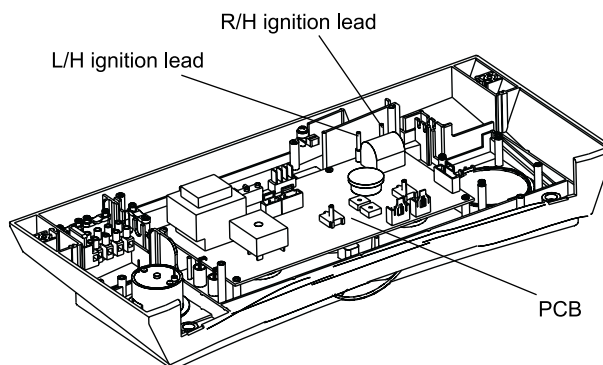

Fig. 21
8.3 IGNITION ELECTRODE LEAD - Refer to Fig. 21
3. Disconnect the lead from the PCB, noting its position (see Fig. 21).
8.13 PCB - Fig. 21